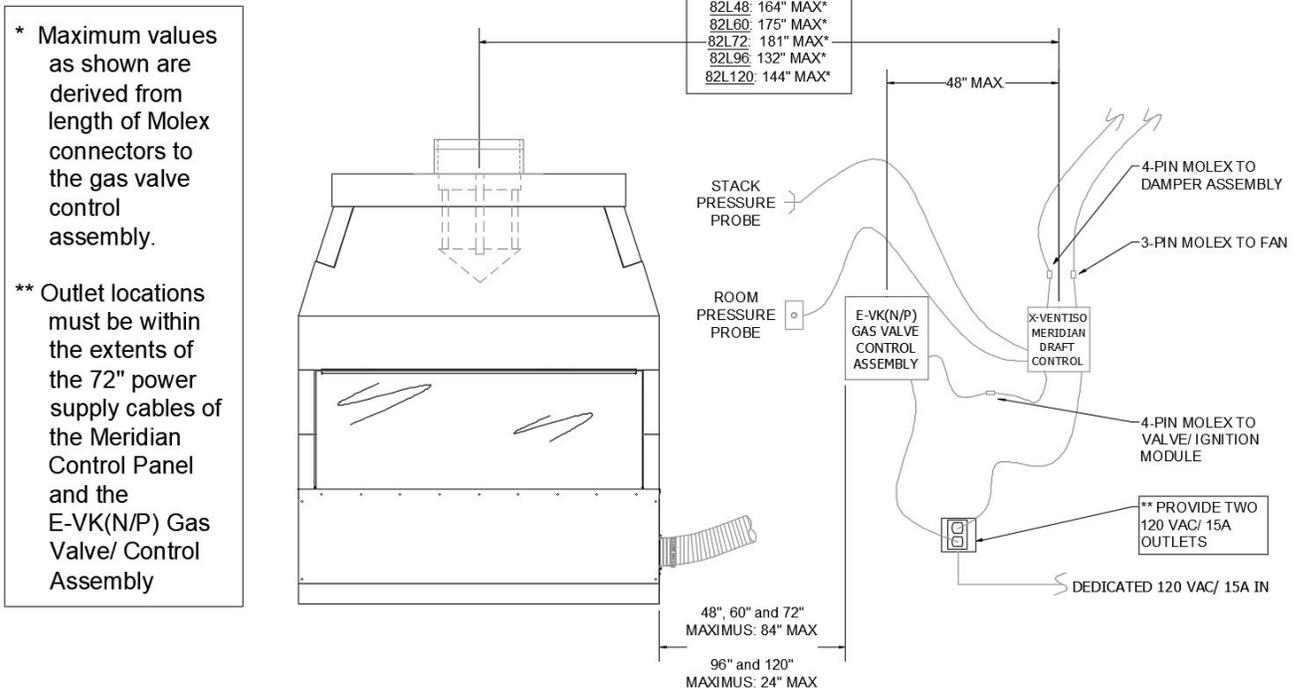

FIGURE 26
- The location of the Meridian Control Panel is dependent upon the fireplace model and must be within the values shown in **(Figure 26)**. The distances shown are as measured horizontally from the fireplace flue-outlet.
NOTE: the Isoflames Linear Burner’s gas valve control box location is also dependent upon the fireplace model/ burner size. It must be located within 84” of the sidewall of the firebox for the 48”, 60”, and 72” Maximus Linear and within 24” for the 96” and 120” Maximus Linear **(Figure 26)**.
- Two 120 VAC / 15A outlets must be provided at the chosen location on a dedicated circuit; one for the Meridian Control Panel, the other for the Gas Valve Control Box . These outlets must be within the extent of the 72” power supply cables of the Meridian Control Panel and the E-VK(N/P) Gas Valve Control assembly **(Figure 26)**.
- 3) Connect the top port of the Meridian Control Panel’s pressure ports with the supplied tubing to the “Stack Pressure” vent probe (**Figure 26, 27 & 29**). This will be connected to the chimney at a location 12” above the anchor plate.
- 4) Connect the lower port of the Meridian Control Panel’s pressure ports with the supplied tubing to the “Room Pressure” vent probe (**Figure 26, 28 & 29**). The other end will be connected in a suitable location in the room in which the fireplace is installed. This location must be in the same pressure zone as the fireplace opening, and within reach of the supplied tubing’s connection to the Meridian Control Panel. The tubing measures 20ft.